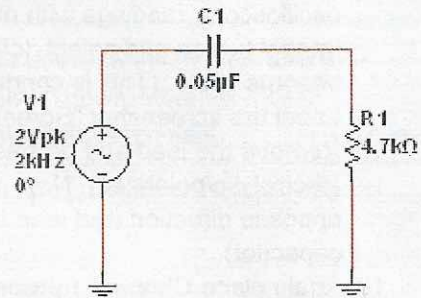

Figure 2-1
2. Place the (2) electronic components seen in Figure 2-1 above on your bread board connecting them in series.